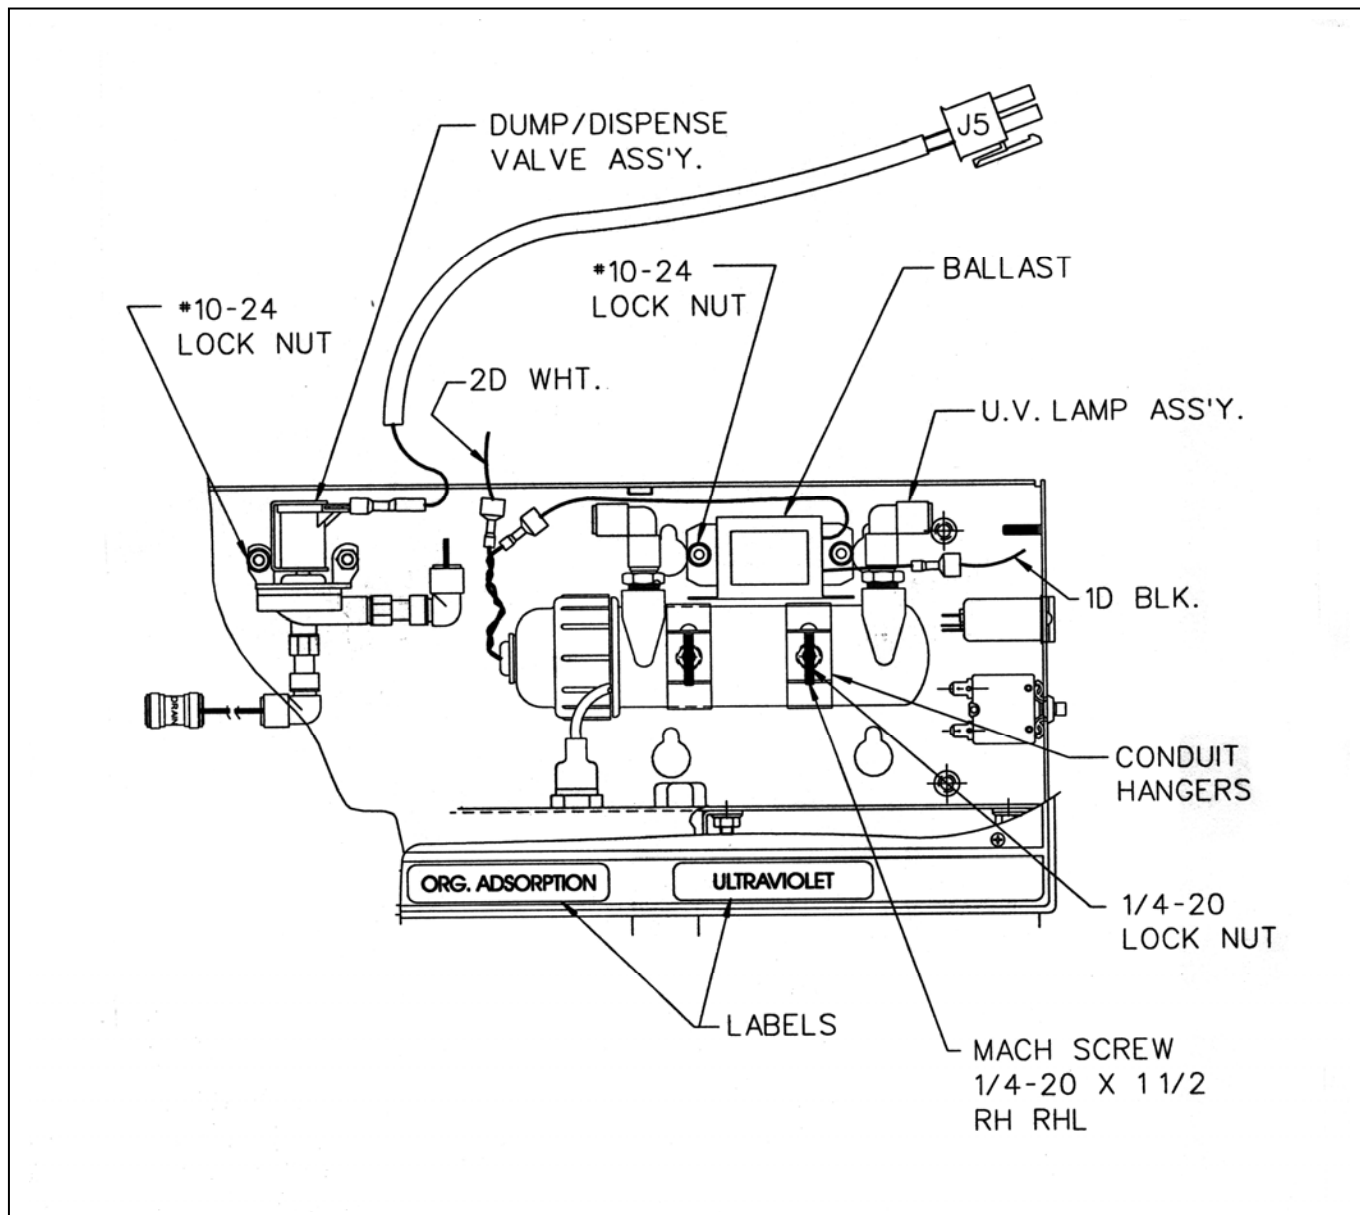

Figure 1
1. Mount U.V. Lamp assembly to (2) 1/4-20 clinch studs in cabinet as shown in figure 1, with (2) conduit hangers and (2) serrated lock nuts 1/4-20 and (2) machine screws 1/4-20 x 1-1/2.
2. Mount ballast - 115V or 230V, as required to (2) #10-24 clinch studs in cabinet as shown in figure 1, with (2) serrated lock nuts #10-24
3. Mount dump/dispense valve assembly - 115V or 230V - as required to (2) #10-24 clinch studs in cabinet as shown in figure 1 with (2) serrated lock nuts #10-24.
4. Mount labels (Org. adsorption and ultraviolet) on stainless steel front cover as shown in figure 1.
1. Connect one lead from U.V. lamp assembly to wiring harness line (white marked 2D). Remove terminal in end of harness before connecting. Connect other lead from lamp assembly to the ballast. Connect the lead from the ballast to the wiring harness line (black marked 1D). See figure 1.
2. Remove valve cable from plastic bag and connect terminals to the dump/dispense valve. Plug other end of cable into J5, Dump Valve, on PC board - backside of display housing. See figure 1.